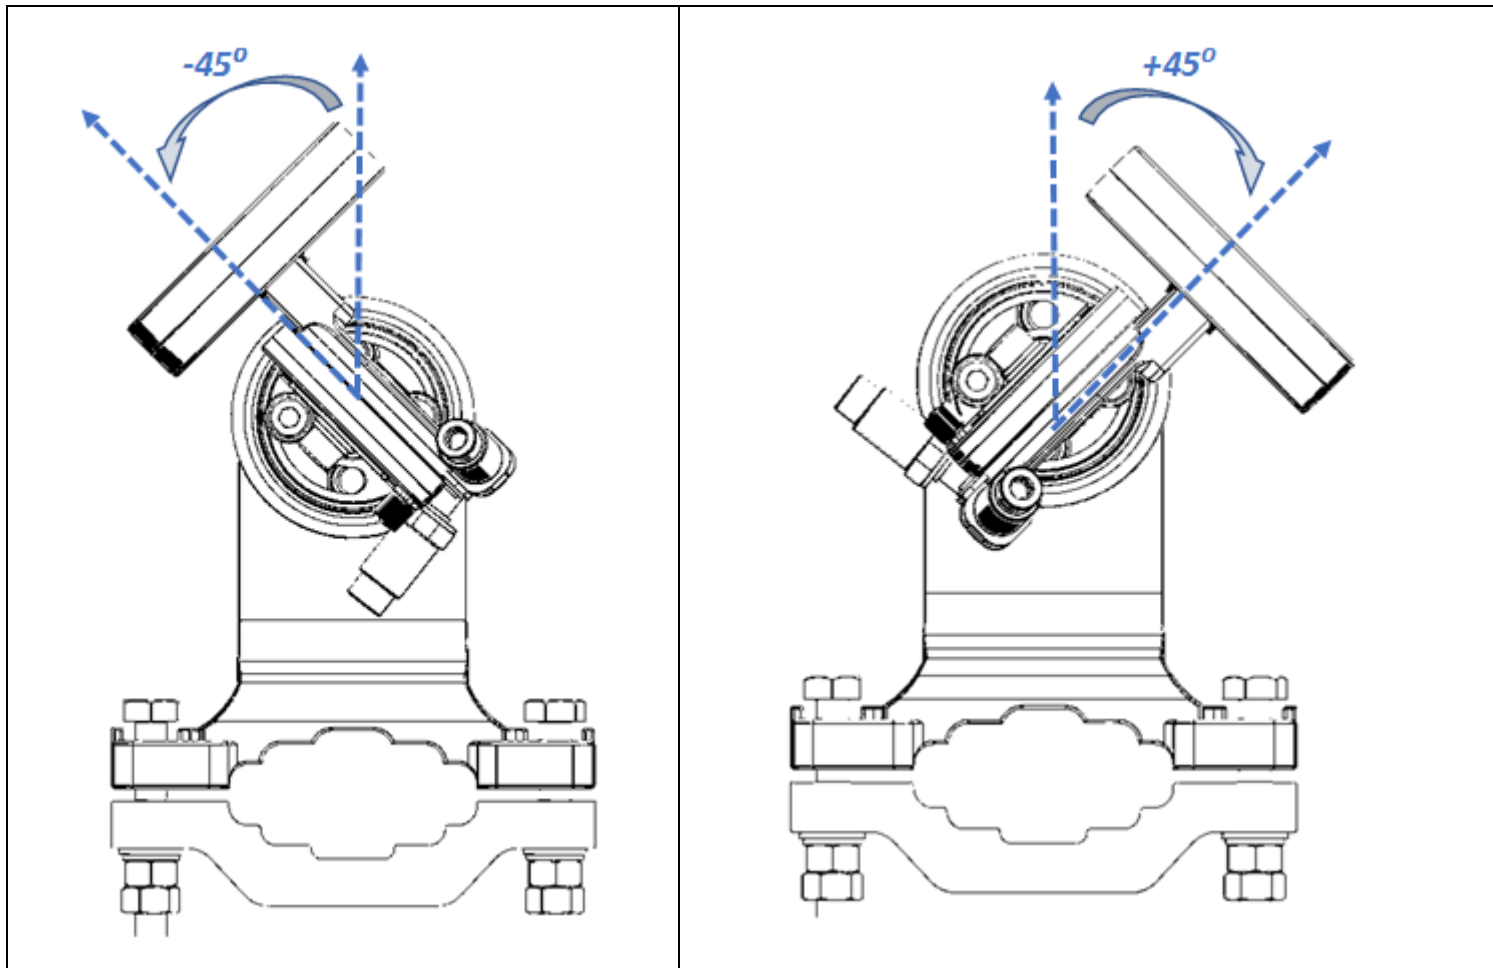

Figure 28: Installation and Alignment Device – Azimuth Range
There are two M8 Elevation Screws and two M8 Azimuth screws, as shown in **Figure 28**. Before starting the alignment, make sure these screws are securely in place so they will not fall out during the procedure, but not too tight, so as to enable you to manually adjust the azimuth and elevation to the approximate position you want, before performing exact antenna alignment as described in the following sections.
You can easily adjust the azimuth and elevation of the antenna using a number of screws and nuts located on the installation and alignment device (**Figure 28**).
1. Loosen the Azimuth Fixing Pin (Figure 28) by pulling it gently out of its groove and rotating it counter-clockwise.
1. Turn the Azimuth Nut (Figure 28), either by hand or using a key wrench, for fine tuning of the azimuth. Each  $\frac{1}{4}$  turn is equal to an adjustment of  $0.25^\circ$ .
1. Loosen the Elevation Fixing Pin (Figure 28) by pulling it gently out of its groove and rotating it counter-clockwise.